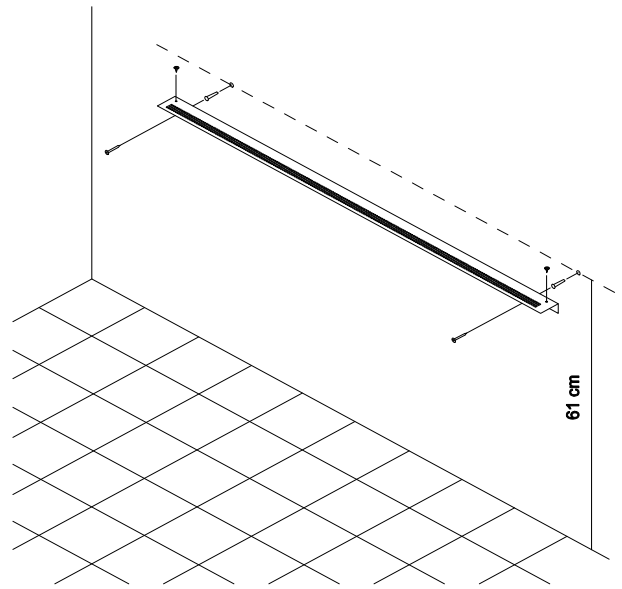

fig. 1
- 3.- Screw on the wall the fixing part, making drills at 61 cm over de floor (Fig. 1).